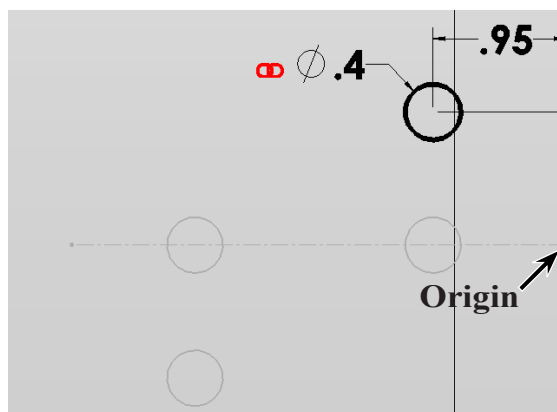

Fig. 34
Step 2. Sketch **circle**, add dimensions and add **Spoke Dia Link Value** to circle dimension, **Fig. 34**.